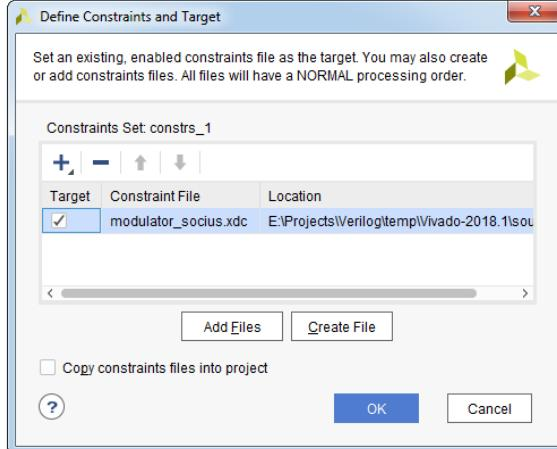

Figure 10.10: Define Constraints and Target dialog box
3. In the **Define Constraints and Target** dialog box, select ***modulator_socius.xdc*** file as target constraints file and click **OK**, see Figure 10.10. In the Define Constraints and Target dialog box, you can also create new or add existing constraints file.